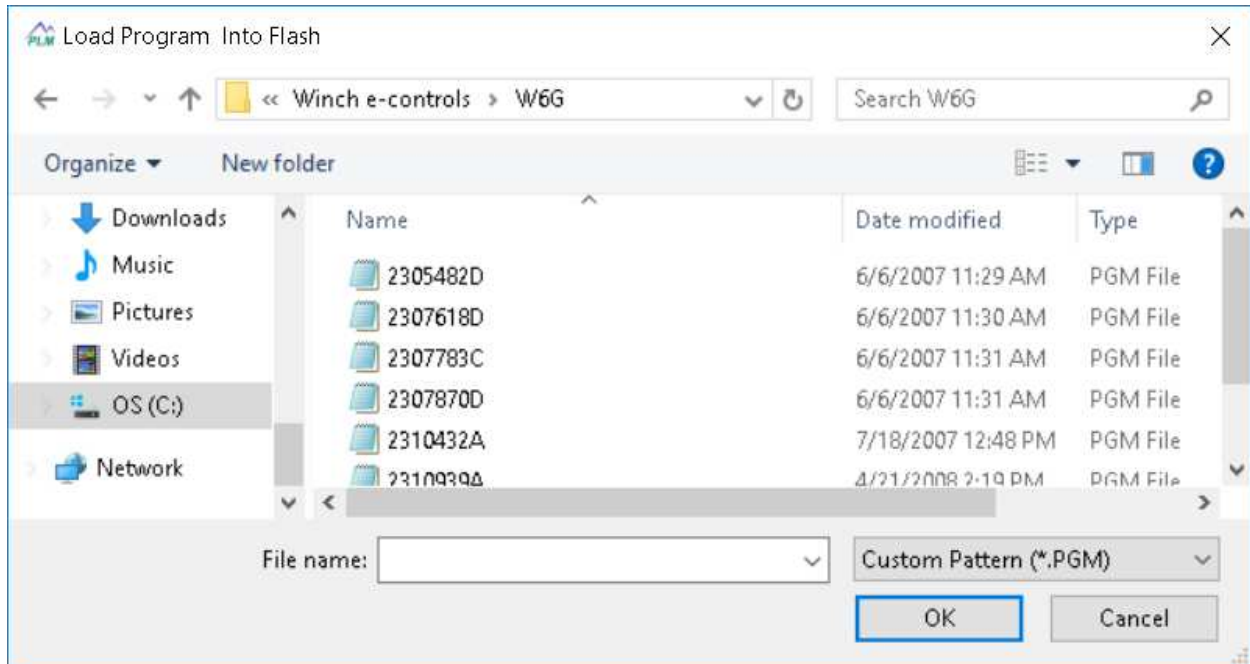
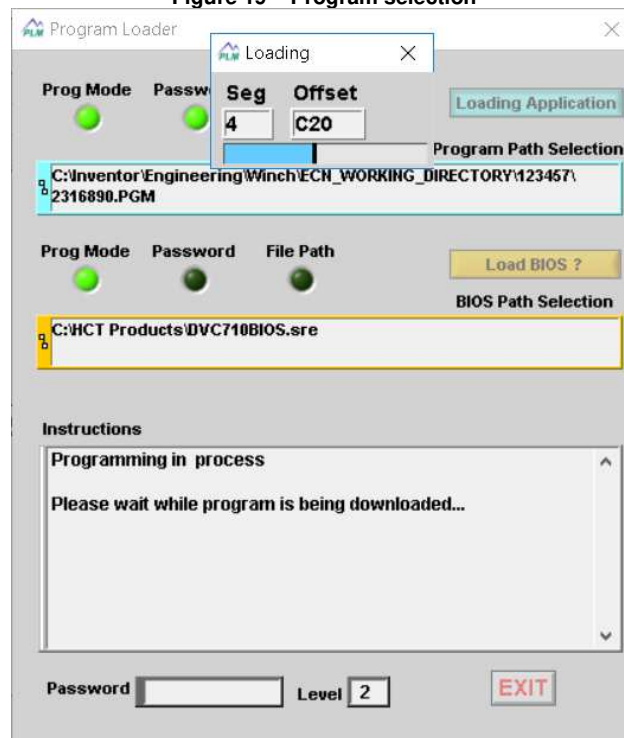
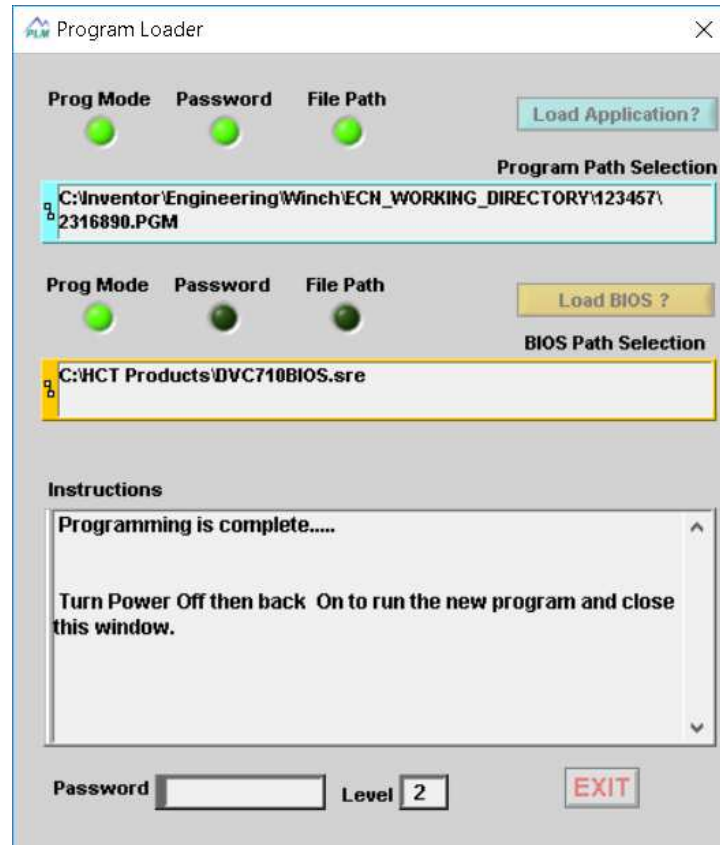

Figure 19 – Program selection
Figure 20 – Program loading in process
Figure 21 – Program loading complete
- 11) Select the program, as shown in Figure 19, then select “Open” and wait for the file to be flashed onto the ECM. Depending on the speed of your computer, this may take several minutes (see Figure 20). When the process of flashing the ECM module is complete, the screen will be as shown in Figure 21.